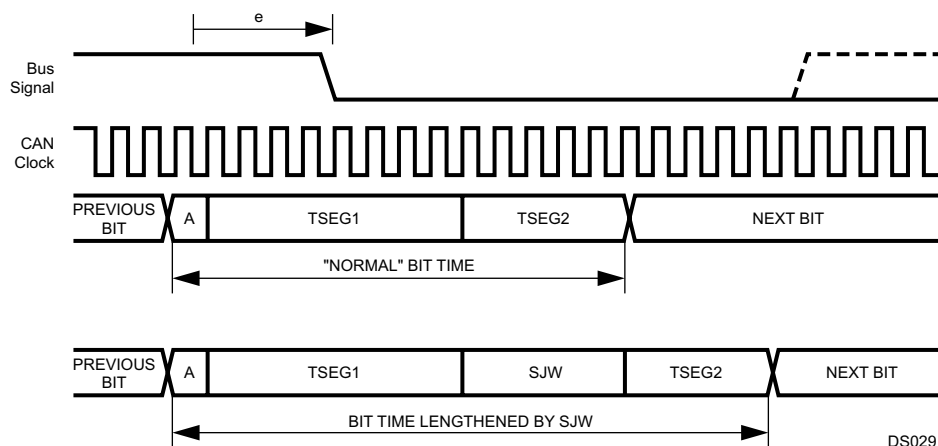

**Figure 15-12. Resynchronization ( $e > SJW$ )**
- If  $e > SJW$ , TSEG1 will be lengthened by the value of the SJW (see Figure 15-12).